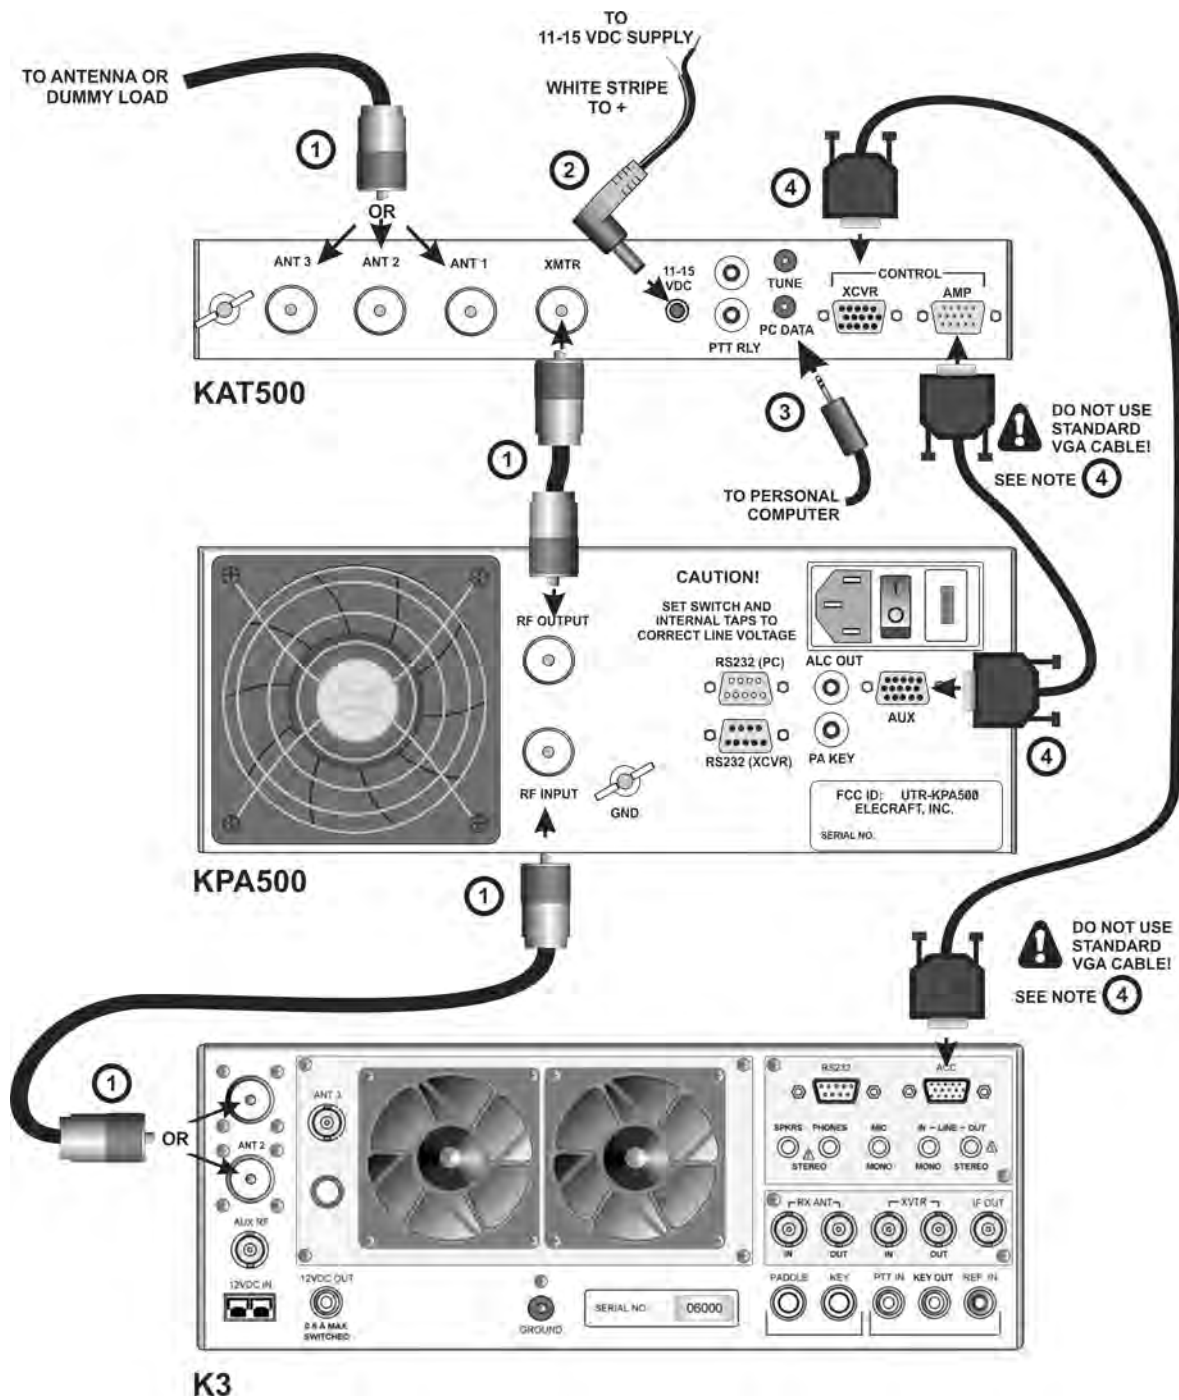
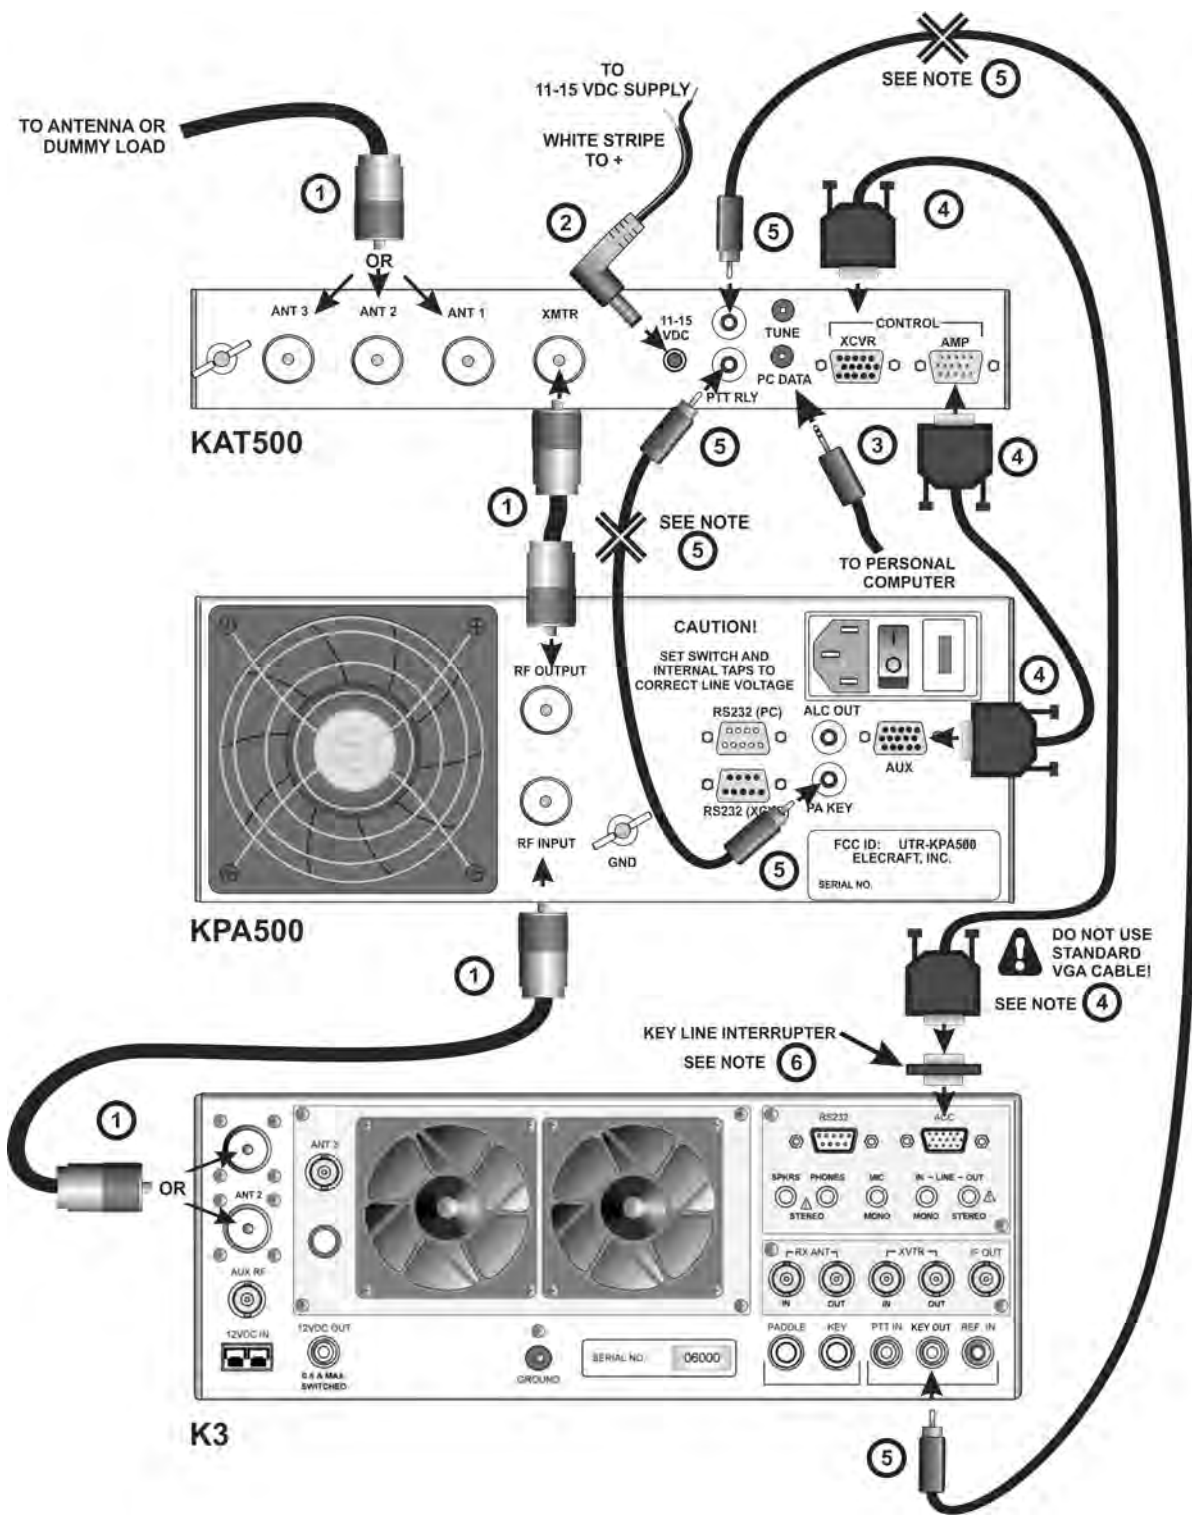

Figure 1. Cabling Diagram: Elecraft K3, KPA500 and KAT500 Using E850463 Aux Interface Cables.
Figure 2. Cabling Diagram: Elecraft K3, KPA500 and KAT500 Using E850463 Aux Interface Cables with Separate Key Line.
The basic E850463 Aux cabling setup is shown in Figure 1. If your station setup requires that other equipment (e.g. SteppIR controller) have access to the key line to inhibit the amplifier, use the cabling described in Figure 2.
The KAT500 works well with any H.F. transceiver covering 1.8 through 54 MHz and amplifier delivering up to 1,000 watts output (see *Specifications*, page 2). If you have an Elecraft K3 transceiver and KPA500 amplifier you can connect them to the KAT500 as shown here. However, for best integration of the K3 equipment, we recommend that you use the E850463 Aux interface cable as shown on page 3 and Figure 1.
- **IF YOU ARE USING THE KAT500 WITH A K3 CONNECTED USING THE E850463 AUX CABLE (Setup Figure 1 or Figure 2):** Apply power to the KAT500 *before* turning the K3 on. If you turn the K3 on before applying power to the KAT500 the K3 may not initialize correctly. If that happens, briefly remove power from the K3 and then turn it on again.